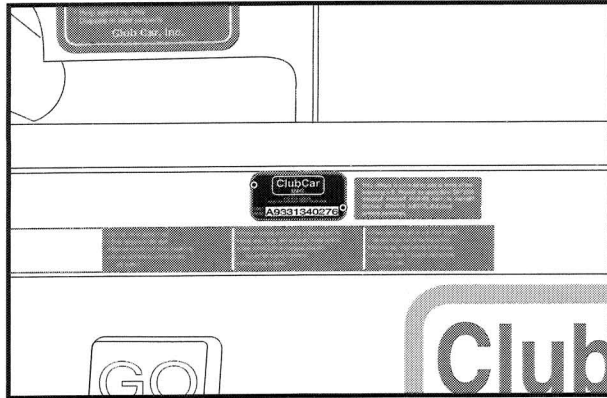

Figure 2
- Always mention this number when ordering parts or making inquiries. (See Figure 2.)